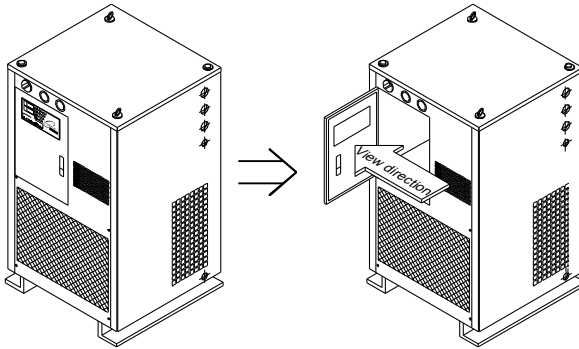

Figure 30-1
- 1、When AL-4 shows, switch 20/21 and 22/23 wires (See Figure 30-1, 30-2), after this action, if still shows AL-4, then please contact your agent to change the controller.